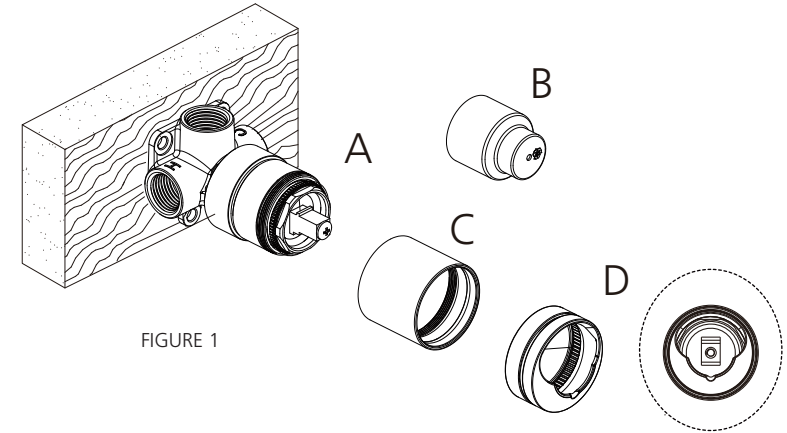
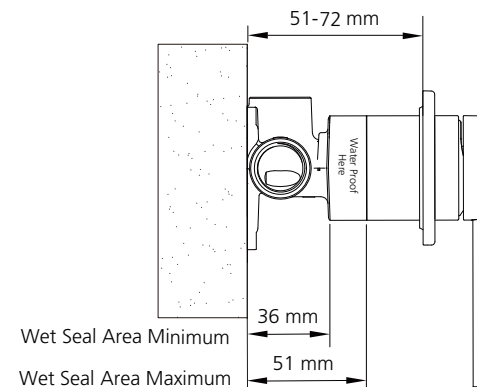

FIGURE 1
FIGURE 2
2. Ensure Product is complete as per exploded drawing (Figure 1). Inwall Body components are labelled: A, B.
3. All Wall Mixer Bodies are supplied with a Plastic Protection Body Cover (B). Ensure the Body Cover (B) remains on the Mixer Body, prior to and during installation to prevent any damage.
4. Screw Mixer Body (A) to the Stud Wall or Brick Cavity taking into account the wet seal area minimum and maximum set out from the back of Mixer to the finished wall surface (Figure 2).
2. Ensure Product is complete as per exploded drawing (Figure 1). Trim Kit components are labelled C through H.
3. Remove Protective Cap (B) from installed Inwall Mixer Body.
4. Screw Decorative Sleeve (C) to Body (A), applying plumbing-grade grease to the O-ring.
5. Press Decorative Cover (D) into Finishing Sleeve (C) with the cut-out at the bottom.
6. Slide Mixer Wall Plate (E) into place. N.B. Wall Plates are fitted with concealed sealing washers. To assist with assembly of the Wall Plate onto the Mixer Body, apply soapy water or plumber's grade grease to the concealed sealing washers.
7. Fit Mixer Handle (F).
8. Screw in Handle Grub Screw (G) using Allen Key (H) to secure Mixer Handle in place.